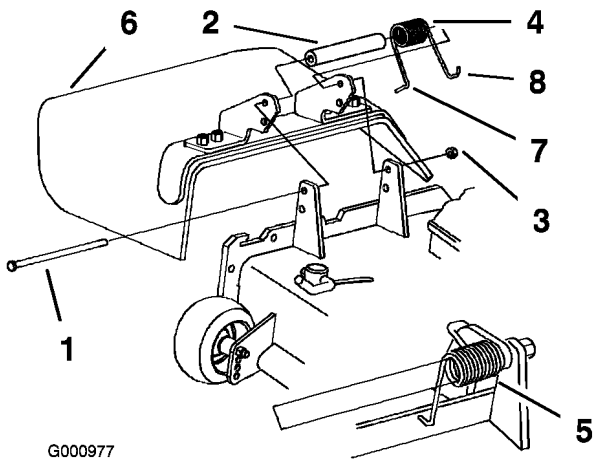

Figure 78
1. Remove the locknut, bolt, spring and spacer holding the deflector to the pivot brackets (Figure 78). Remove the damaged or worn grass deflector.
Note: Make sure the L end of the spring is installed behind the deck edge before installing the bolt as shown in Figure 78.
3. Install the bolt and nut. Place the J hook end of the spring around the grass deflector (Figure 78).